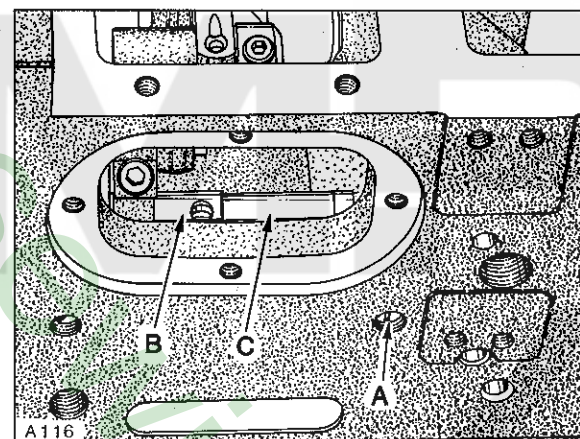
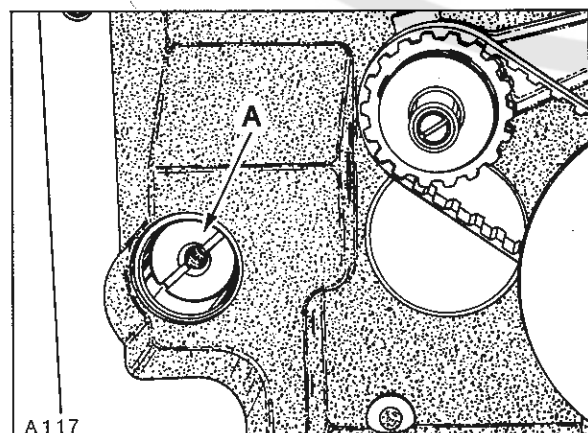

Fig. 15
Fig. 16
Feed dog can be leveled or tilted by loosening screw (A, Fig. 15) and rotate feed rocker tilting shaft (A, Fig. 16) slightly as required. Check parallelism of feed dog by placing throat plate in position. Before tightening screw (A, Fig. 15), make sure to have approximately .002 inch (.051mm) clearance between feed rocker (B) and spacer sleeve (C).